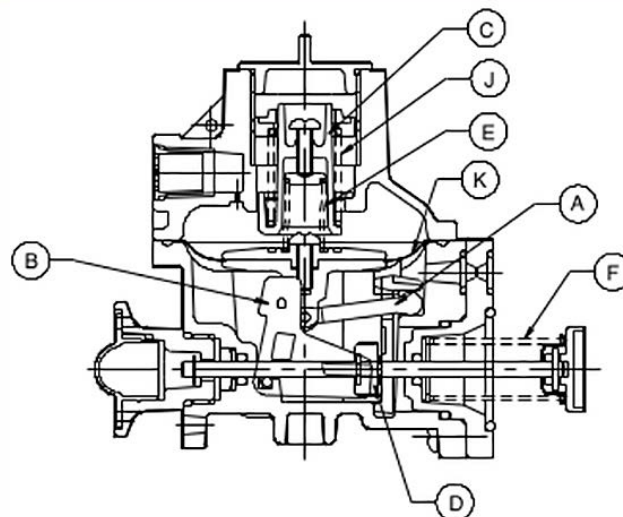

Figure 3 - Underpressure shut-off activated
When the outlet pressure reduces to about 120% of the underpressure set by the underpressure (upss) spring (E), the diaphragm (K) moves downwards under the action of the smaller upss spring. The opss spring (J) is inactive as the opss spring holder (C) is held at the base of the turret. The diaphragm pulls the lever (A) downwards with it across the face of the latch (B). If the outlet pressure falls to the trip pressure, the lever is pulled off the latch. The latch pivots under the action of the force provided by the valve actuating spring (F). This allows the tripoff bushing (D) on the spindle to disengage from the latch allowing the spindle to move and the valve to close onto the orifice (see figure 3).